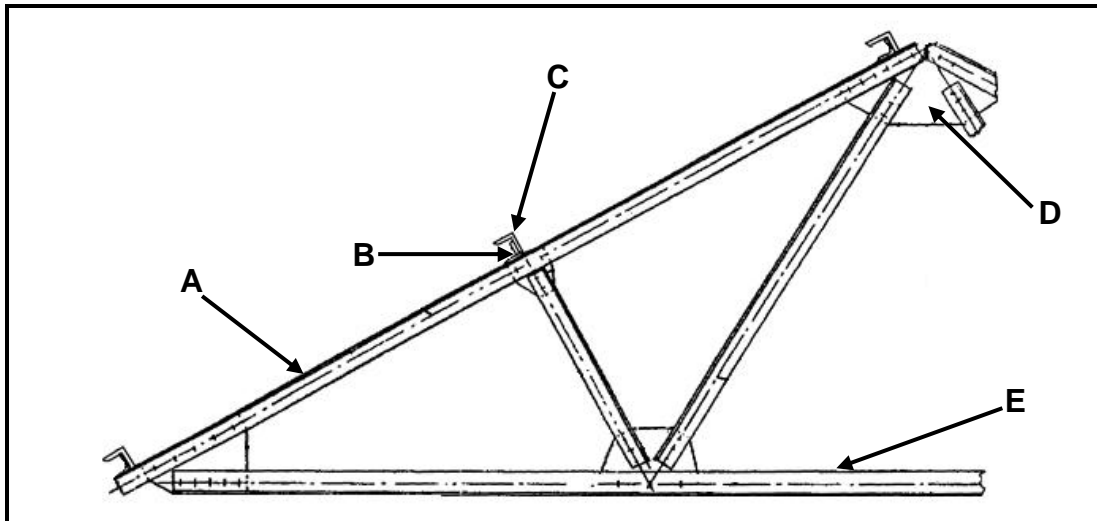

FIGURE 5.3
- 5.3 FIGURE 5.3 shows a roof truss. (1)